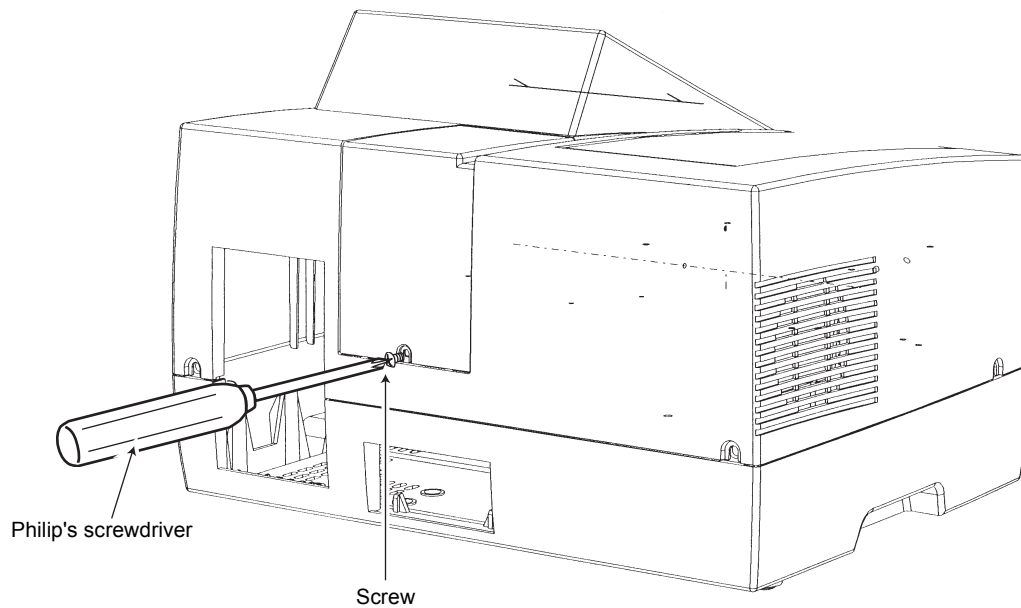
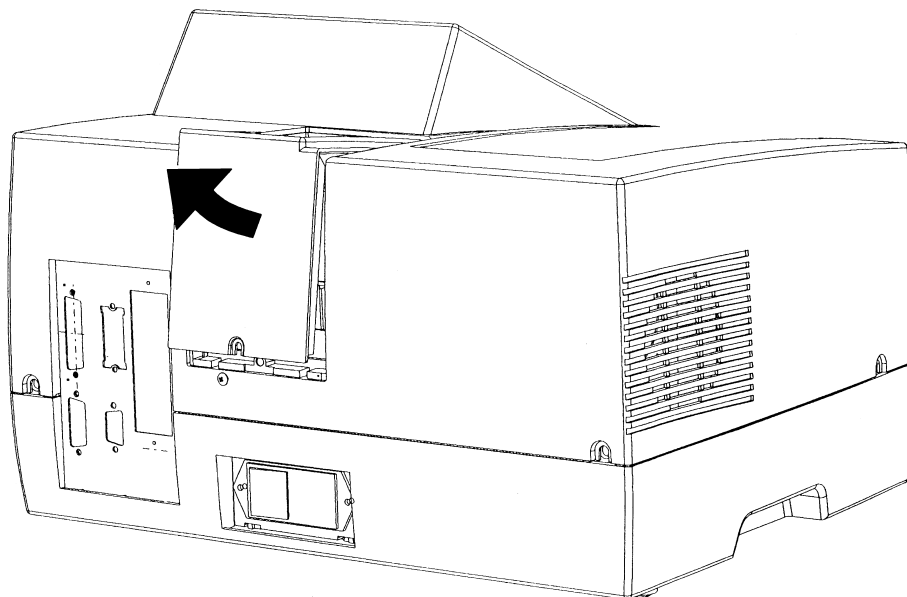

Fig. 11.4 Light source cover
Fig. 11.5 Removing the light source cover
*1 Refer to Fig. 11.4 and Fig. 11.5 in section 11.4.2 to remove the light source compartment cover.
(1) Using a Philip's screwdriver, remove the screws at the rear of the main unit shown in Fig. 11.4.
(2) Next, pull the light source cover in the direction of the arrow in Fig. 11.5 to remove the light source cover.
- (1) Press on the parts indicated by the arrows in Fig. 11.4 on the sides of the light source cover, lift the cover up and release the "catch".
- (2) Next, pull the light source cover in the direction of the arrow in Fig. 11.5 to remove the light source cover.
- (3) Remove the WI lamp retainer spring from the end of the top of the WI lamp. In case of the UVVis Model since there is fear of touching the D2 lamp with your hand at this time, either cover the D2 lamp with a clean piece of paper or cloth or remove the D2 lamp before performing this operation. (Refer to "Replacing D2 Lamp" for the procedure of removing the D2 lamp.)